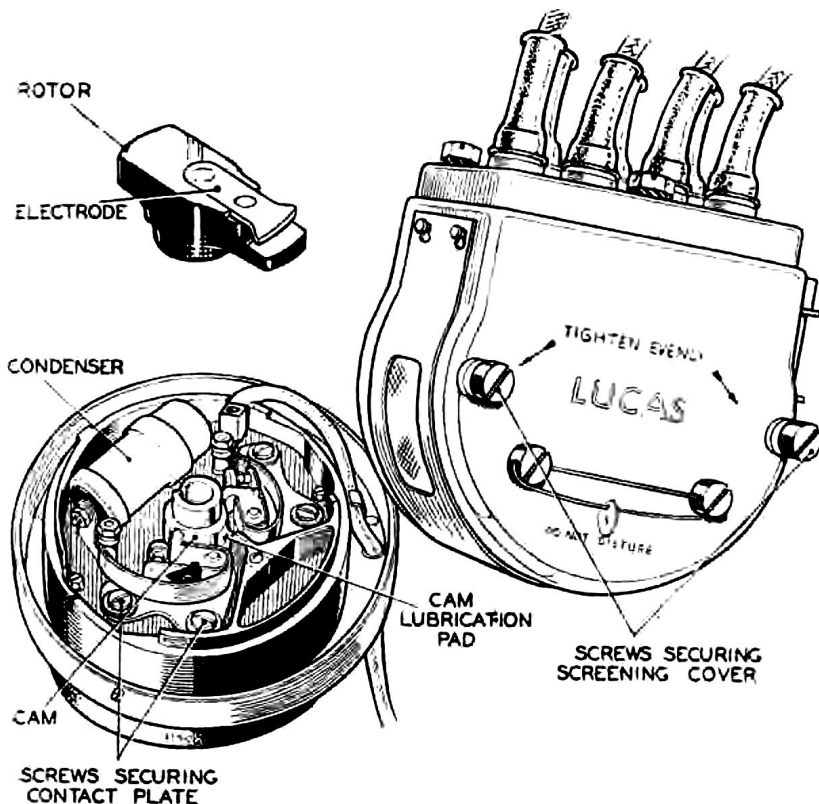

Fig. 14.—DISTRIBUTOR.
1. Slacken off the two screws securing the distributor cover, as indicated in Fig. 14 and remove the cover.